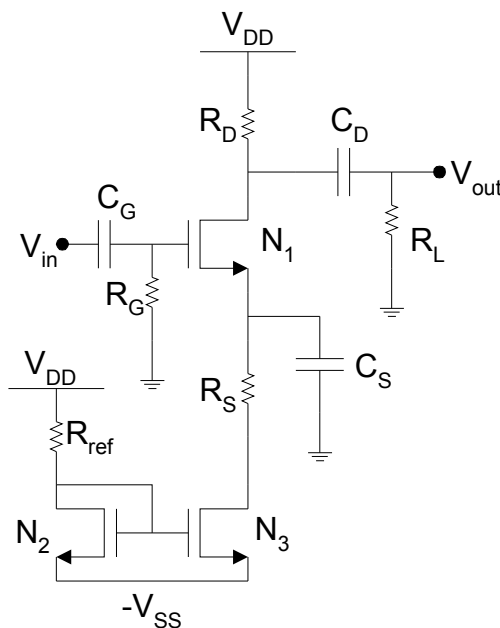
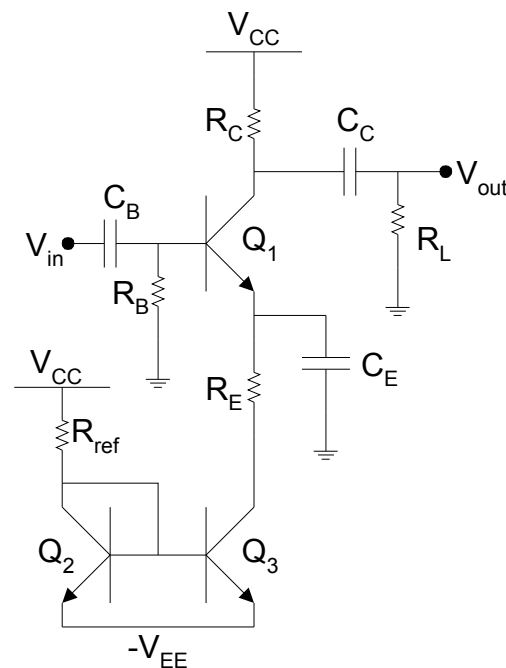

Figure 1. NMOS common source amplifier with current sink for biasing.
Figure 2. NPN BJT common emitter amplifier with current sink for biasing the amplifier.
A common source amplifier with a current sink for setting the bias current is shown in figure 1. Transistor N_1 is used for the common source amplifier, while the pair $N_2 - N_3$ forms a current sink to bias N_1 . The gate resistor R_G should have a large value, and is used to ensure a DC bias of 0V at the gate of N_1 . The resistors R_D and R_S are used to set the appropriate bias voltages at the drain and source terminals. The coupling capacitors C_G and C_D are used to ensure the gate and drain terminals are isolated from the input and output, respectively, under DC conditions. The bypass capacitor C_S ensures that the source terminal is essentially grounded at the signal frequencies.
A BJT common emitter amplifier circuit is shown in figure 2. The circuit operates in a similar manner to the NMOS CS amplifier in figure 1. Transistor Q_1 is the amplifier, while the transistor pair Q_2 and Q_3 forms a current sink. The resistor values in the circuit are chosen so that the collector current of the BJT is 1 mA , which is the approximate drain current of the CS amplifier you are to design. Note that the resistor values are not necessarily the same for the two circuits. The component values are given in Table 2.
1. **NMOS common source amplifier design:** Complete the design of NMOS CS amplifier circuit given in figure 1 to meet the specifications given in Table 1. Show the details of your calculations and explain your reasoning for your design choices. Use DC analysis to determine your bias component values and small signal analysis to calculate the input resistance, output resistance, and open-circuit voltage gain A_{vo} of your design, i.e. the gain without R_L . Propose a method to limit the voltage swing at the output (V_{out}) between -1V and +5.5V
3. **BJT CE amplifier simulation:** Do the same simulations in task 2 for the BJT CE amplifier circuit shown in figure 2, with the values given in table 2. How does this circuit compare with the NMOS CS amplifier?